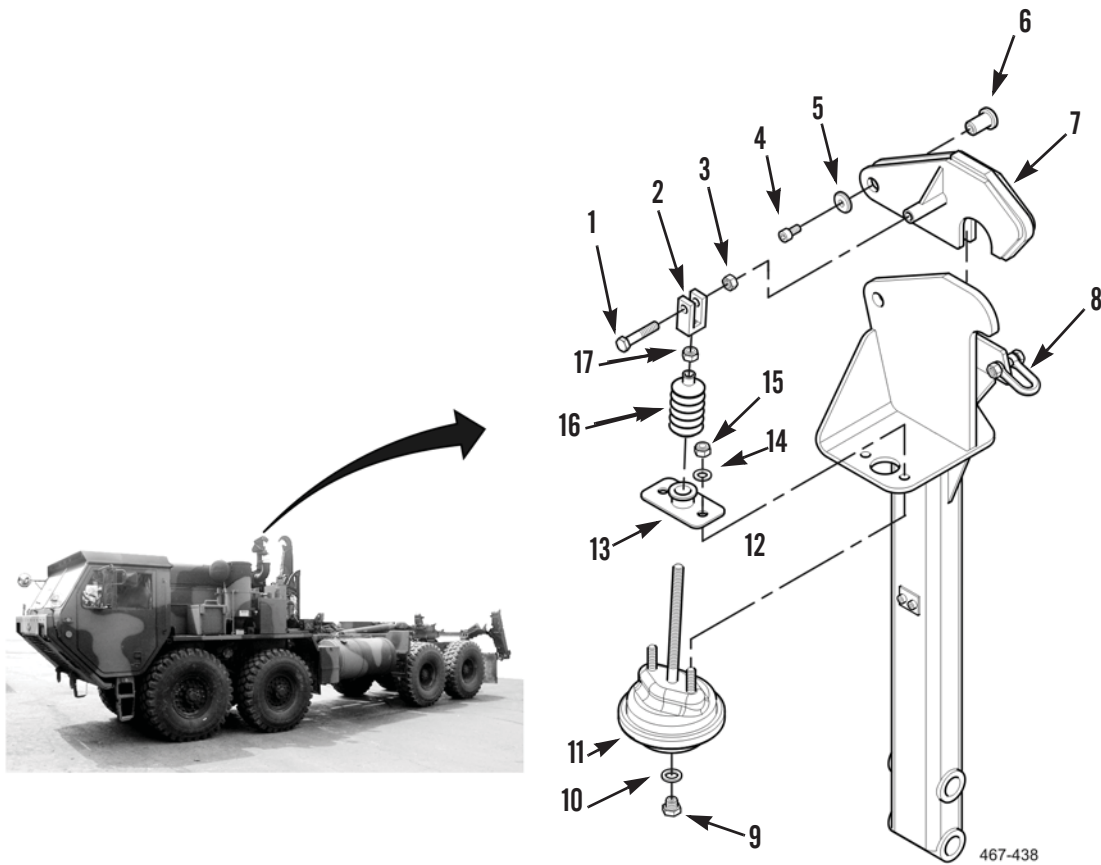

Figure 1. Stowage Latch and Actuator.
1. Remove bolt (Figure 1, Item 1), yoke (Figure 1, Item 2), and nut (Figure 1, Item 3) from capture plate (Figure 1, Item 7).
2. Remove bolt (Figure 1, Item 4), end washer (Figure 1, Item 5), pivot pin (Figure 1, Item 6), and capture plate (Figure 1, Item 7) from latch assembly (Figure 1, Item 8).
3. Remove yoke (Figure 1, Item 2), jam nut (Figure 1, Item 17), and boot (Figure 1, Item 16) from actuator (Figure 1, Item 11).
4. Remove fitting (Figure 1, Item 9) and washer (Figure 1, Item 10) from actuator (Figure 1, Item 11).
5. Remove two locknuts (Figure 1, Item 15), washers (Figure 1, Item 14), bracket (Figure 1, Item 13), and actuator (Figure 1, Item 11) from mounting plate (Figure 1, Item 12). Discard locknuts.
1. Install actuator (Figure 1, Item 11), bracket (Figure 1, Item 13), two washers (Figure 1, Item 14), and new locknuts (Figure 1, Item 15) on mounting plate (Figure 1, Item 12).
2. Install washer (Figure 1, Item 10), and fitting (Figure 1, Item 9) on actuator (Figure 1, Item 11).
3. Install capture plate (Figure 1, Item 7), pivot pin (Figure 1, Item 6), end washer (Figure 1, Item 5), and bolt (Figure 1, Item 4) on latch assembly (Figure 1, Item 8).
4. Install boot (Figure 1, Item 16), jam nut (Figure 1, Item 17), and yoke (Figure 1, Item 2) on actuator (Figure 1, Item 11).
5. Adjust placement of yoke (Figure 1, Item 2) on actuator (Figure 1, Item 11) to align yoke with boss on capture plate (Figure 1, Item 7). Tighten jam nut when aligned.
6. Install bolt (Figure 1, Item 1), yoke (Figure 1, Item 2), and nut (Figure 1, Item 3) on capture plate (Figure 1, Item 7). Adjust depth of bolt to vertically align yoke on actuator.